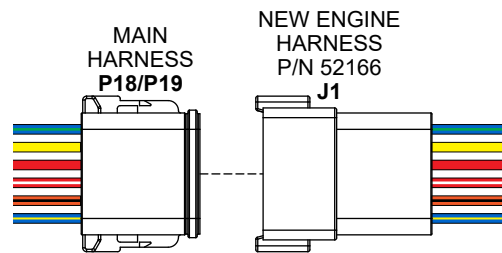

Figure 12. Connect New Engine Harness To Main Harness
11. Connect connector **J1** on the new engine harness (P/N 52166) to the available connector on the trowel main harness. If connecting the **front/right engine**, this connector will be labeled **P18**. If connecting the **rear/left engine**, this connector will be labeled **P19**. See Figure 12.